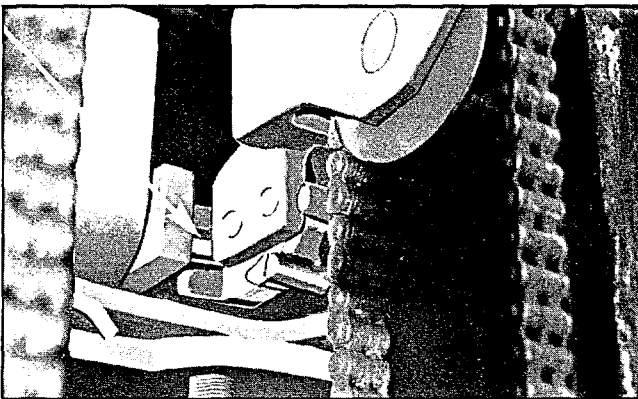

Figure 4-49 Latch Positioning
- (b) The two latches must be properly interlocked as shown in figure 4-49 and the spring must be securely engaged with both latches.